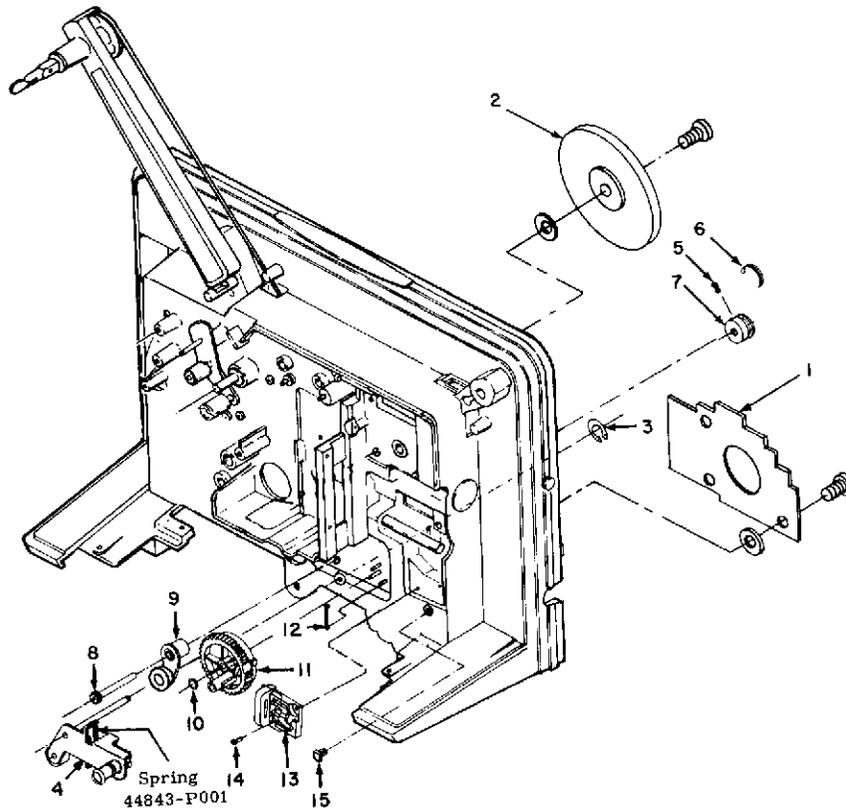

Figure 3-16. AUTOMATIC LOOP RESET REMOVAL AND REASSEMBLY
1. Remove the venturi plate (1).
2. Remove the sound drum Flywheel (2).
3. With a long, flat-blade screwdriver, reach in behind the blower venturi plate and remove the "E" Ring (3).
4. Slide the Arm Complete (4) out of its mounting hole in the main casting.
5. Loosen the Set Screws (5), remove Belt loop setter (6), the Pulley (7) and slide the Pinion (8) out of the bearing of the Pivot (9).
6. Remove the "E" Ring (10), the Gear (11) and the Kick Spring (12).
L. Reassembly of Automatic Loop Reset Assembly Ref. Figure 3-16
1. Clean the Oilite Bearing in the Pivot (9) with a cotton swab moistened with Teresso Instrument Oil (39479-P8).
2. Assemble the Kick Spring (12) immediately next to the loop reset gear mounting shaft as shown.
3. Insert a dental pick through the small hole next to the hub of the Loop Reset Gear (11) and push the Kick Spring (12) out of the way so the gear can be pushed onto its shaft. Secure the gear with the "E" Ring (10) (251-7-1).
4. Slide the Pinion (8) into the oilite bearing of the Pivot (9) and assemble the Pulley (7) allowing for .001" to .007" end play. Tighten Set Screws (5).
5. Slide the Arm Complete (4) into its mounting hole in the main casting and secure it in place with the "E" Ring (3). (A set of surgical hemostats are very helpful for holding this "E" Ring during installation.)
6. Replace the sound drum Flywheel (2).